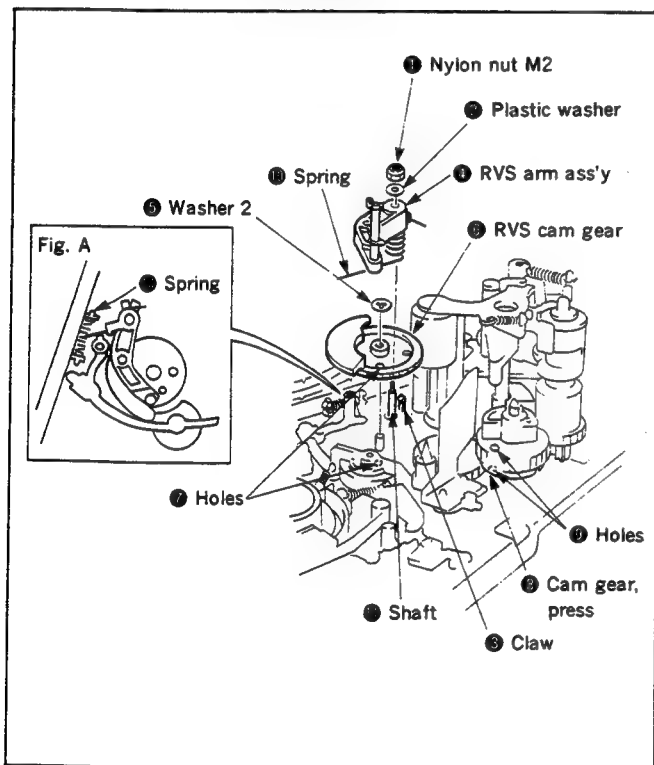

Fig. 3-14.
3-8. RVS ARM ASS'Y AND RVS CAM GEAR (Fig. 3-14)
- 1) Remove the reel lock release ass'y. (Refer to Fig. 3-14.)
- 2) Disengage the three claws marked ❶ and the claw marked ❷, then remove the tension regulator band ass'y ❸.
- 3) Unhook the end of the spring ❹ from the chassis.
- 4) Disengage the claw ❺, then pull out the tension regulator arm ass'y ❻.